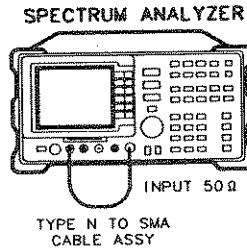

Figure 4-7. Frequency Span Accuracy Test Setup (Spans ≥ 500 MHz)
1. Connect the equipment as shown in Figure 4-7. *Option 026:* Use the cal comb with the 3.5 mm adapter.